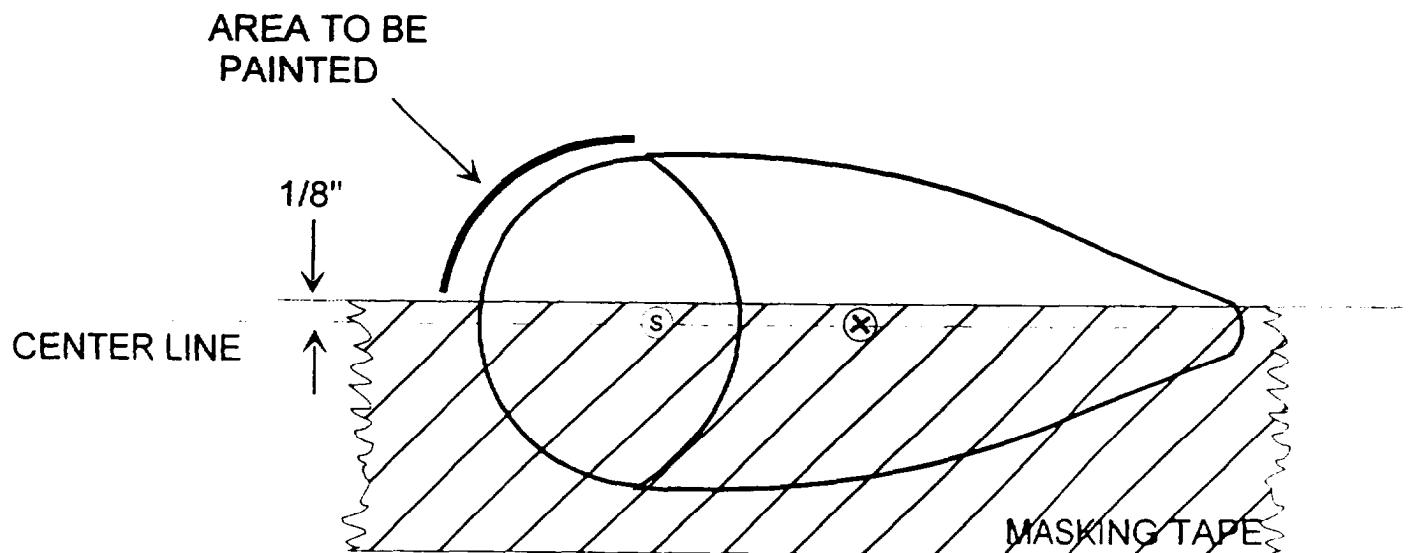

Figure 1. Lens Modification Schematic
(1) Require a one-time masking of the red and green position lights to exact dimensions specified.
(2) Ensure that flight operations are conducted in accordance with FAA regulations when flying in civil airspace at night.
(3) Provide controls to minimize risk during NVG flight operations.
a. Lens Modification (Reference Figure 1).
(1) Both upper and lower red and green lenses must be modified. Leave position light dome lens in assembly.
(2) Determine the horizontal center line of the position lights by drawing or marking from the center of the Phillips screw and cone point of the light cover and extending across dome lens through the raised letter or dimple located in the center of the lens.
(3) For the upper right and left position lights, mark a line 1/8 inch below and parallel to the center line drawn in step 2. The line should extend from the light cover to the base of the lens. Place masking tape on the upper part of the light assembly along the line drawn 1/8 inch below the center line. Note that the masking tape will just cover the head of the Phillips screw on the light assembly covers.
(4) For the lower right and left position lights, measure and mark 1/8 inch above and parallel to the center line mark on the lens. The line should extend from the light cover to the base of the lens. Place masking tape on the lower part of the light assembly along the 1/8 inch line above the center line. Note that the masking tape will just cover the head of the Phillips screw on the light assembly covers.
(5) Verify that slightly more than 1/2 of the top portions of the exposed upper position lights are completely masked, and slightly more than 1/2 of the bottom parts of the lower position lights are completely masked.
(8) To prevent overspray of the airframe CARC paint, cut a piece of stencil board, oil (NSN 9310-00-160-7858) approximately 16 inches long by 11 inches wide and locate center point. Place the position light template over the center point of the cut stencil board lengthwise and draw around the template. Remove the template and, with a sharp instrument, cut out template area. The position light assembly will be exposed to minimal overspray.
(7) Paint the exposed area of the lenses using lacquer, olive drab, 16 oz. aerosol can (NSN 8010-00-584-3149). Proceed until sufficient coats are applied to prevent any bleeding of light through the painted area. Test the opacity of the painted area by turning on the position lights.
(8) A schematic of the above instructions may be found at figure 1.